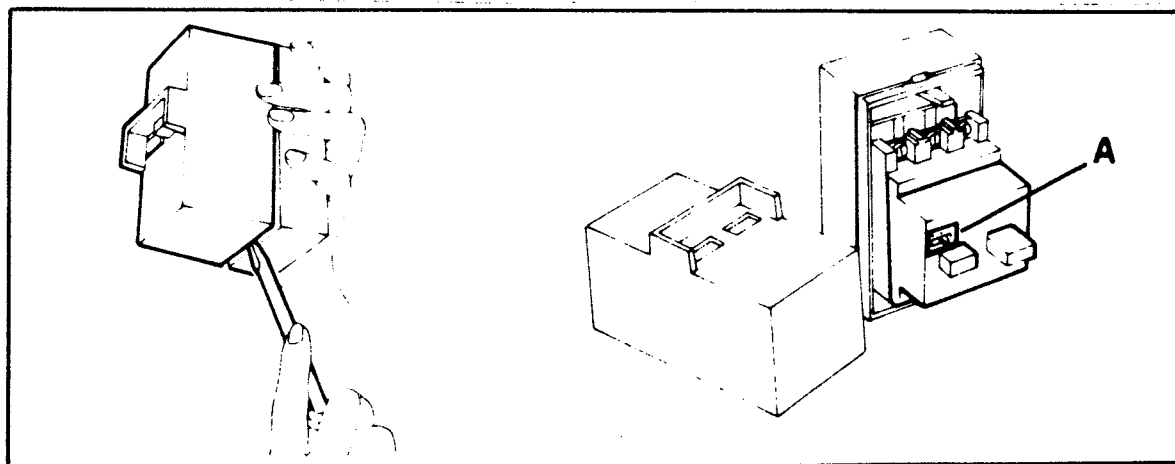

FIGURE 39
The Box Sealer is equipped with a circuit breaker which trips the "On-Off" switch to "OFF" position. Located inside the electrical control box on the side of the main frame just below the conveyor bed, the circuit breaker has been pre-set for 5 amps and requires no further maintenance. Should the circuit breaker be replaced, check the amp setting before installation. Remove the front cover on the electrical box from the under side as shown in figure 39 and set the amp setting (A) at 5 amps.